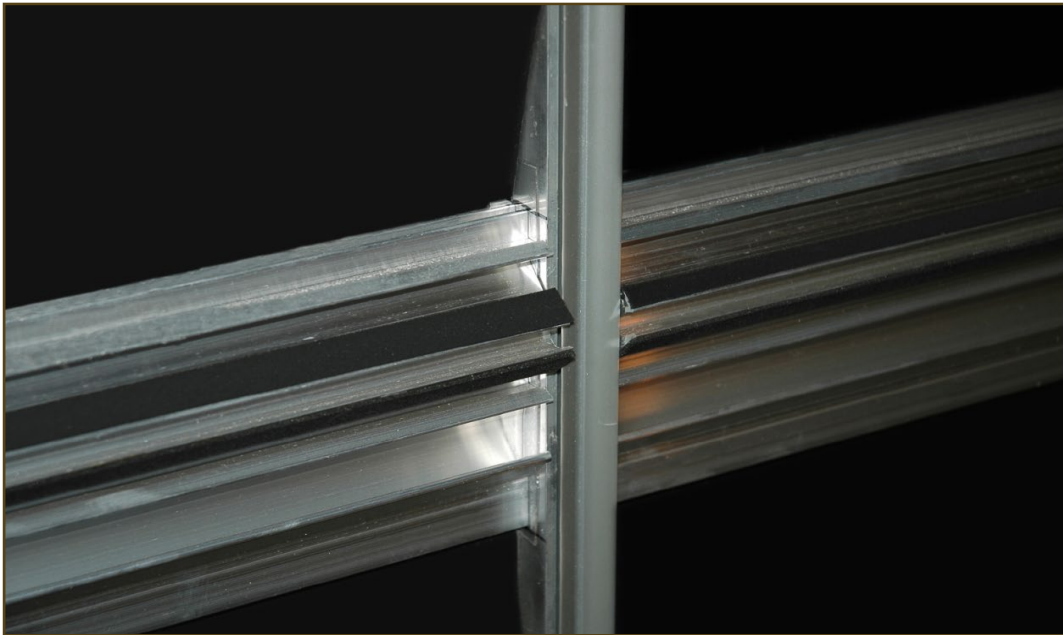

Figure 10. CSF tape applied to Horizontal Extrusions behind Tiles
6. Apply $\frac{1}{16}$ " (2mm) CSF tape to Horizontal Extrusions behind Tiles; Tiles press fit over CSF tape for seal. This is at Antler and Thief Extrusions. See Figure 10 below.